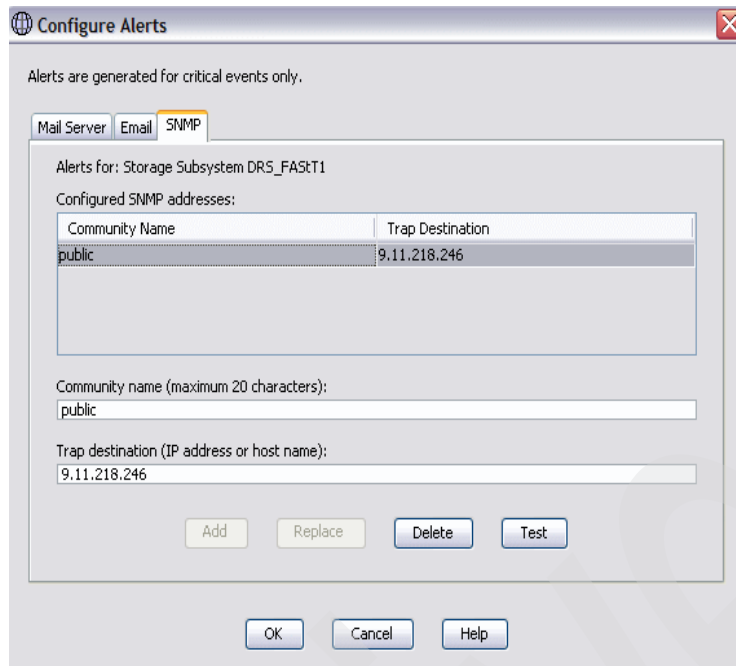

Figure 9-40 Configure Alerts window
- ▶ Enter the IP address of the RSM for Storage system in the Trap Destination window, as shown in Figure 9-40 on page 379